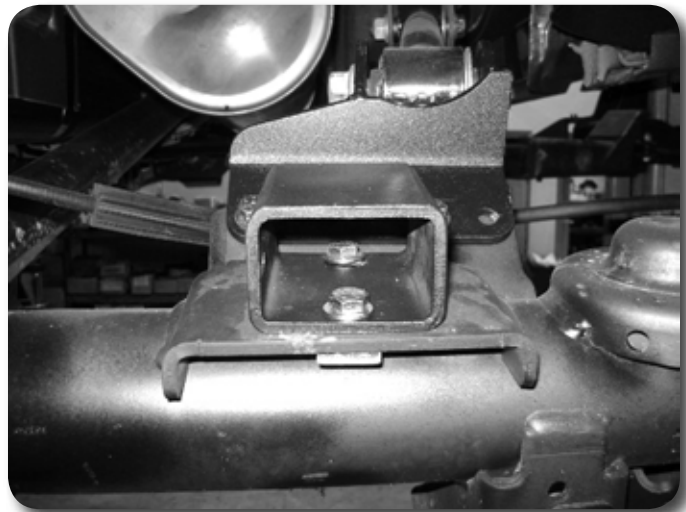

Figure 32
87. Attach bump stop extensions to the driver and passenger side with 3/8" x 7/8" bolts with washers into threaded plate. Tighten to 35 ft-lbs. 2-3" rear kits orientate the block so that it is the short setup **Figure 32**, 5" rear kits, intall the block in the tall orientation with the offset going forward.